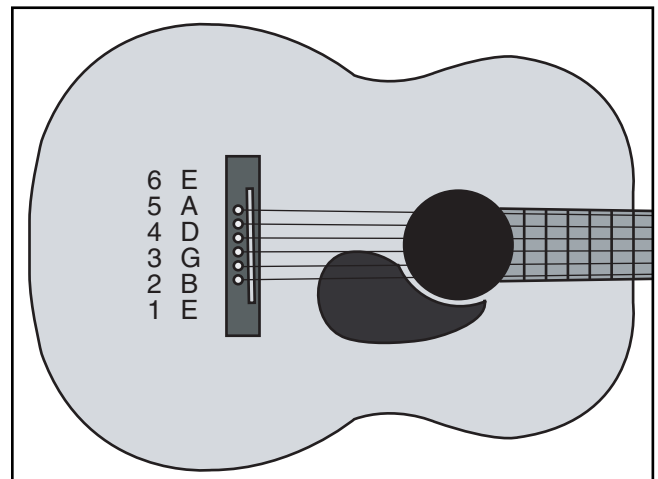

Figure 19. String tuning notes.
- The goal when tuning is to make the strings in tune with one another. Standard tuning is shown in **Figure 19**.